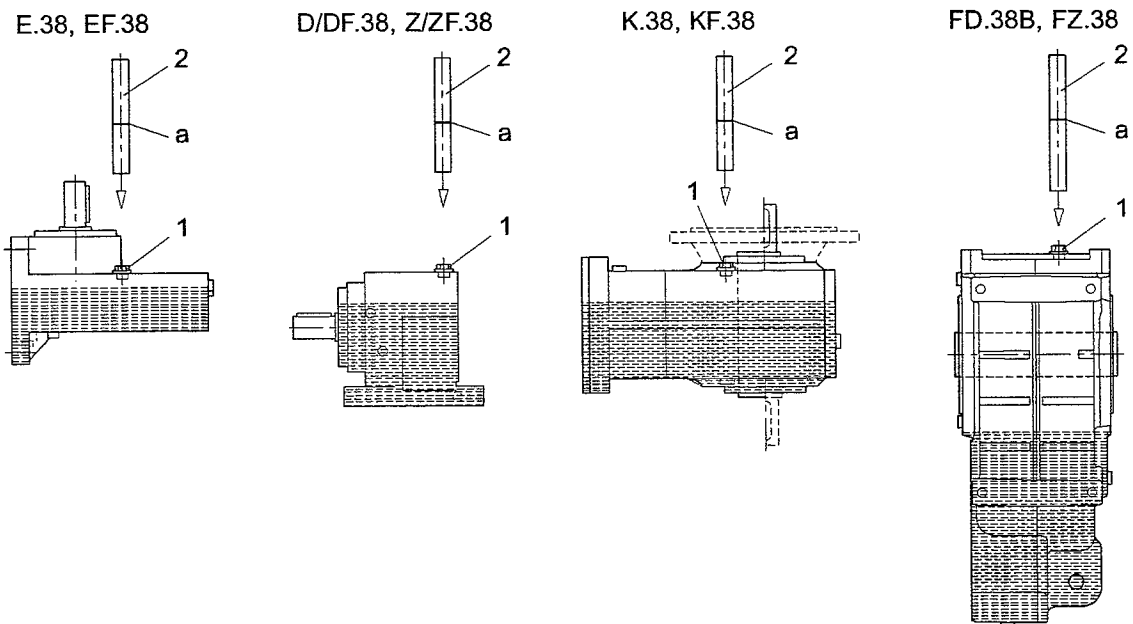

Figure 10.2.1.1-2: Oil level check on size 38 gear unit
2) Demount the drive and set it up in accordance with figure 10.2.1.1-2 "Oil level check on size 38 gear unit". The screw plug, part 1, must be on the upward side.